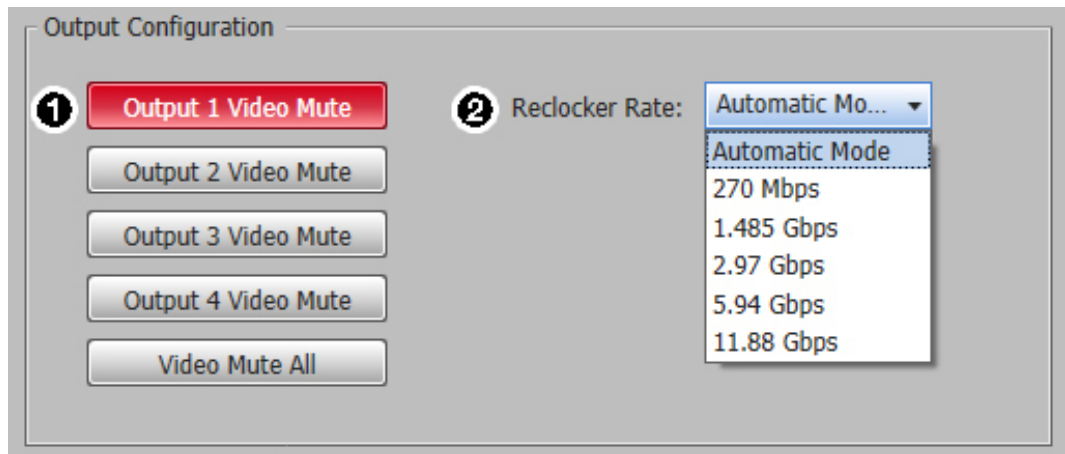

Figure 13. Output Configuration Panel
There are two configuration options in the Output Configuration panel (see figure 13): output video mute (1) and RecLocker Rate (2).